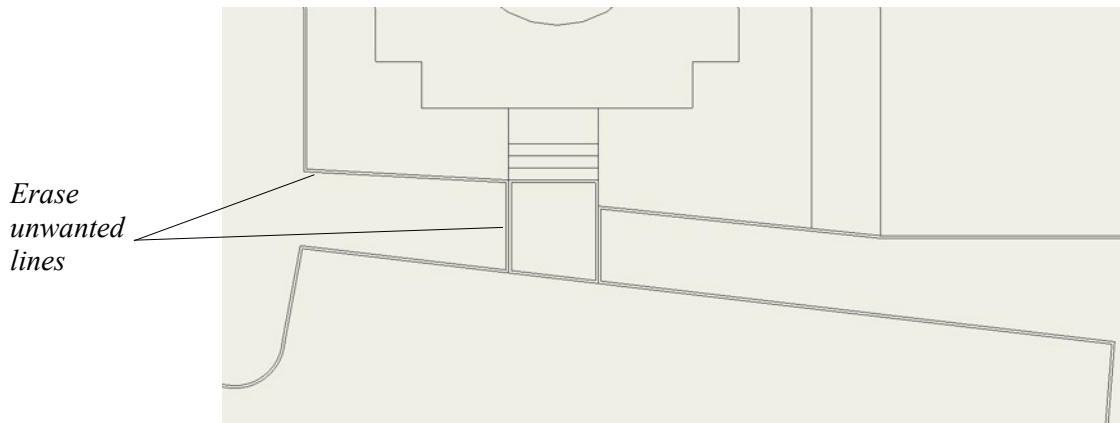

Figure 16. Drawing the Kerb using the Offset command
- Highlight the face as shown in Figure 16 and **Offset** it inwards by 100mm. Click anywhere on the face and drag your mouse pointer inwards and type 100. This will create an inner boundary as shown in Figure 16.
- Repeat for the next adjacent face until the kerb edge is created as highlighted in Figure 16.
- Delete the unwanted edges formed by the **Offset** command as shown in Figure 16.
- Draw in connecting lines to complete the kerb as shown in Figure 16.